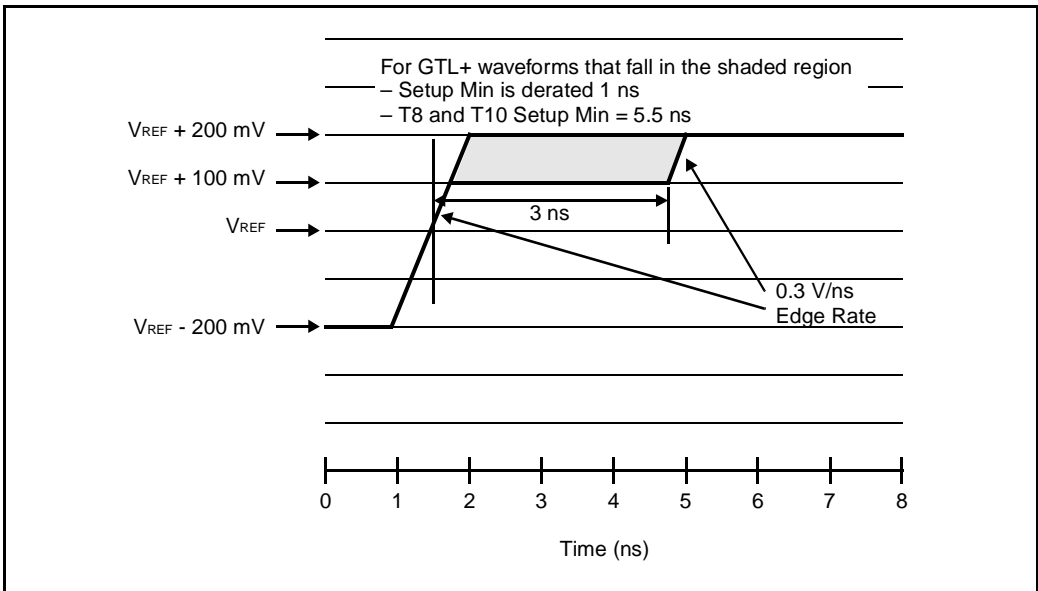
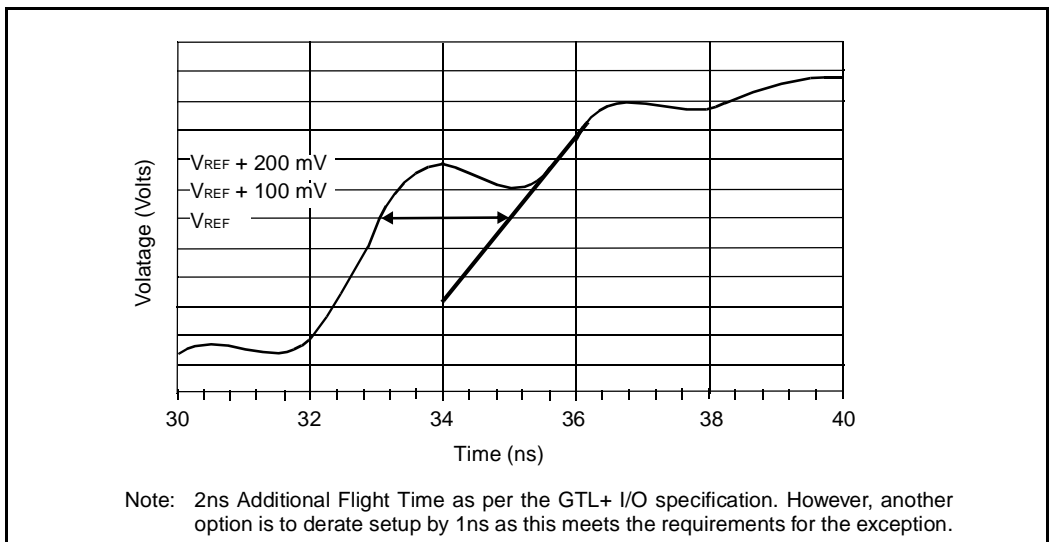

Figure 5. Exception to GTL+ Minimal Input Waveform With Setup Impact
Figure 6. Example of 450KX/GX Receiver Waveform that Benefits from  $T_{SU}$  Derating
1. Values correspond to input waveforms as specified in the GTL+ Interface Specification in *Pentium Pro Processor Developer's Manual: Specifications*. A waveform with less than 200mV of overdrive is acceptable if it meets the criteria in Figure 5. However, in this case, the minimum setup specification will be impacted by 1ns, making Setup Min 5.5ns. An example of a signal that would benefit from this derating is shown in Figure 6.